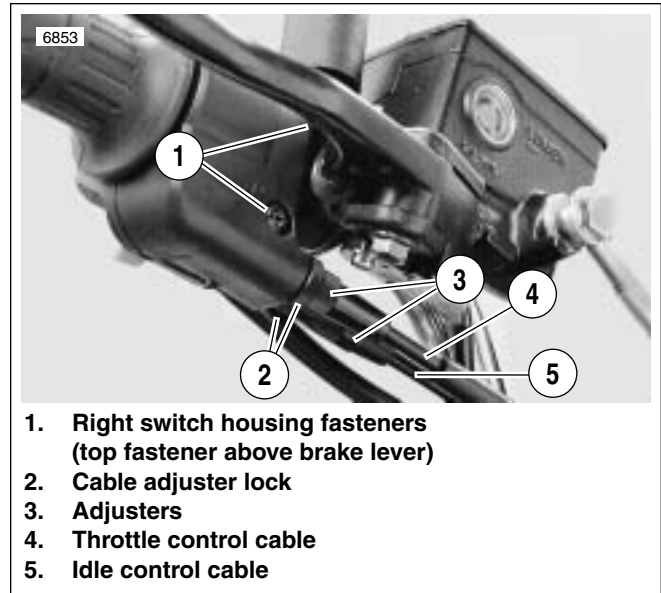

Figure 2-96. Throttle Control Cables
2. See Figure 2-96. Loosen cable adjuster lock (thick disc) (3) on each cable.
3. Turn adjusters (3) in direction which will shorten cable housings to minimum length.
4. Remove fasteners (1) on right switch housing and separate housing from handlebar.
3. Install throttle grip and position ferrules (6) into cable wheel (7).
7. See Figure 2-96. Attach rear switch housing and position housings on right handlebar by engaging locating pin on front housing with hole in handlebar. Attach housings with two fasteners, installing longer fastener on bottom. Tighten to 25-33 **in-lbs** (3-4 Nm).